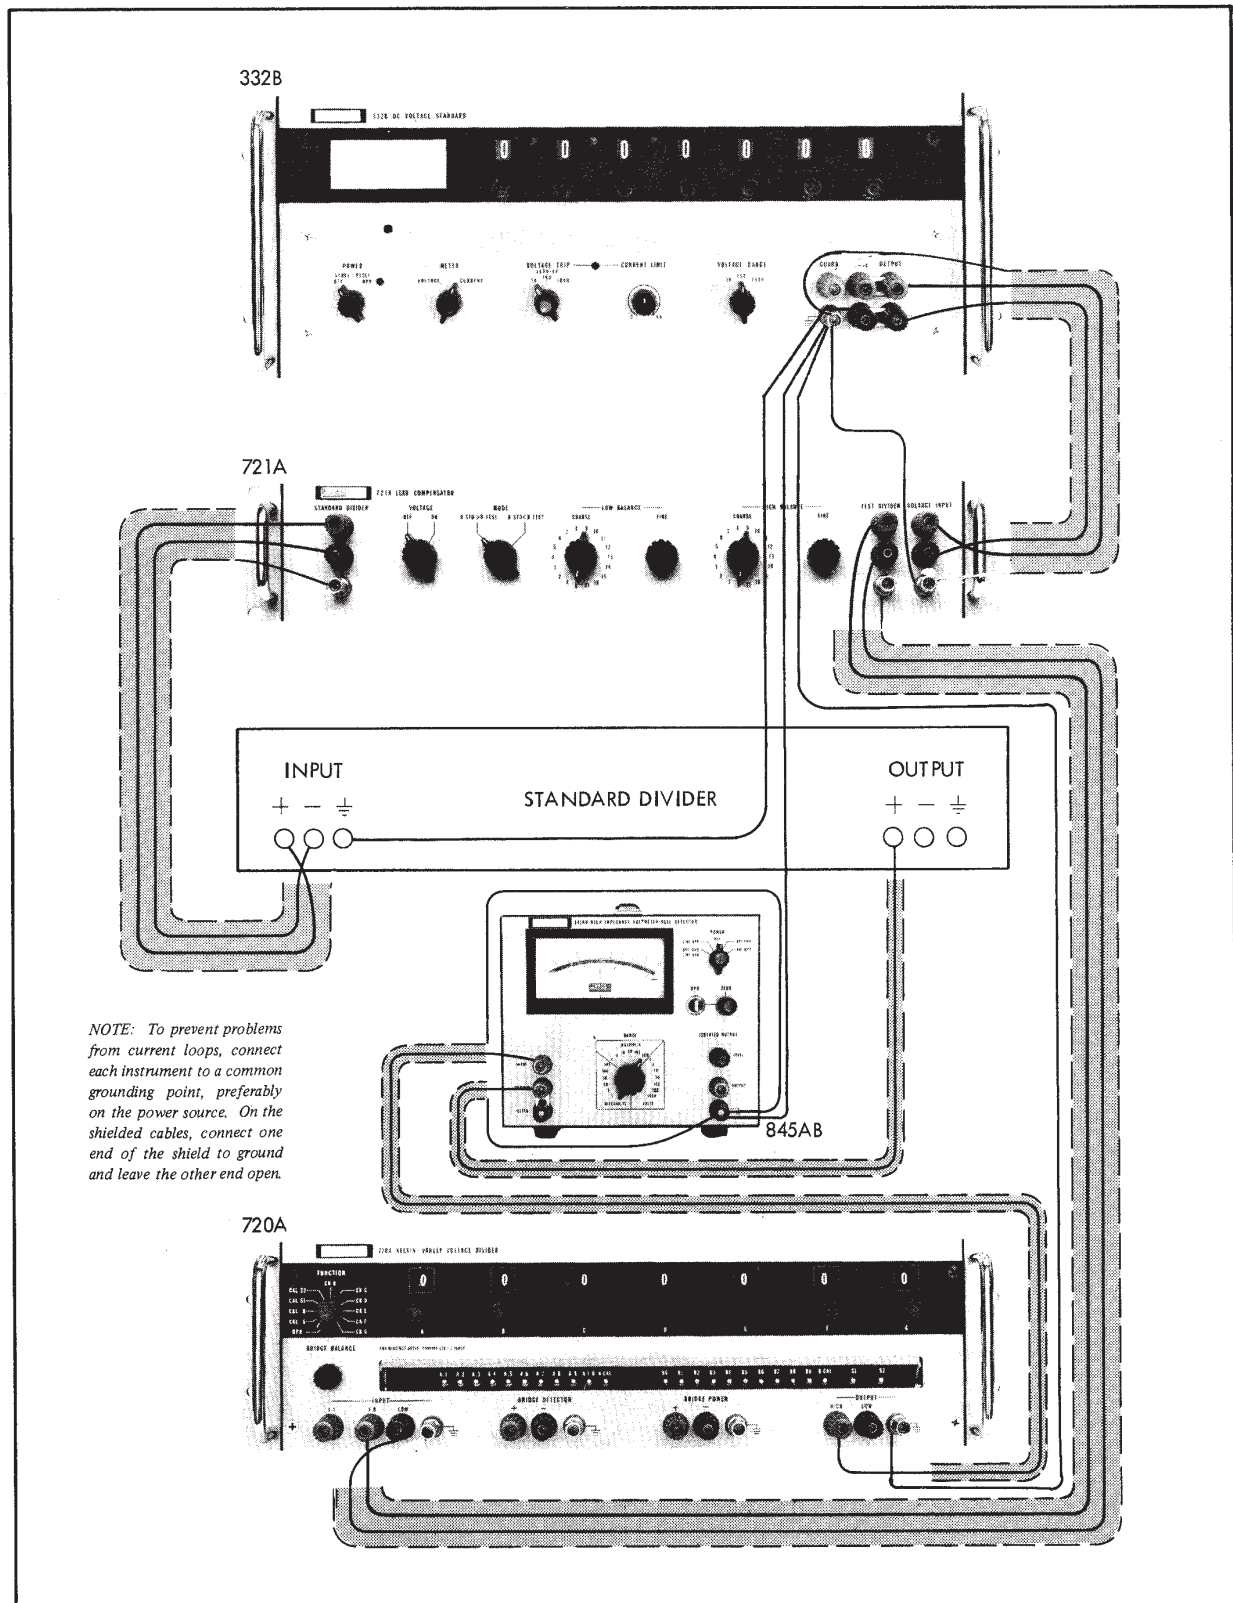
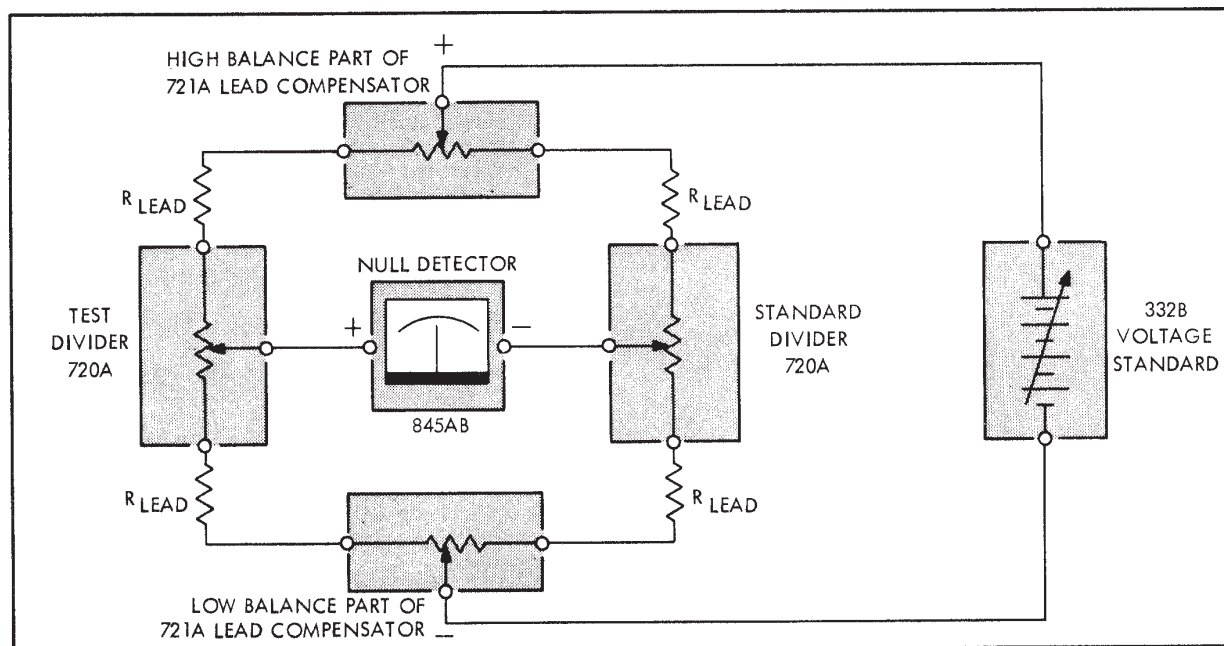

Figure 4-3. EQUIPMENT CONNECTIONS FOR LINEARITY COMPARISON TEST
Figure 4-4. SIMPLIFIED SCHEMATIC DIAGRAM OF LINEARITY COMPARISON TEST
- 4-16. To compare divider linearity, connect the equipment as shown in Figure 4-3 and proceed as follows:
Figure 4-4 is a schematic diagram of the test set-up obtained by interconnecting the equipment as shown in Figure 4-3.